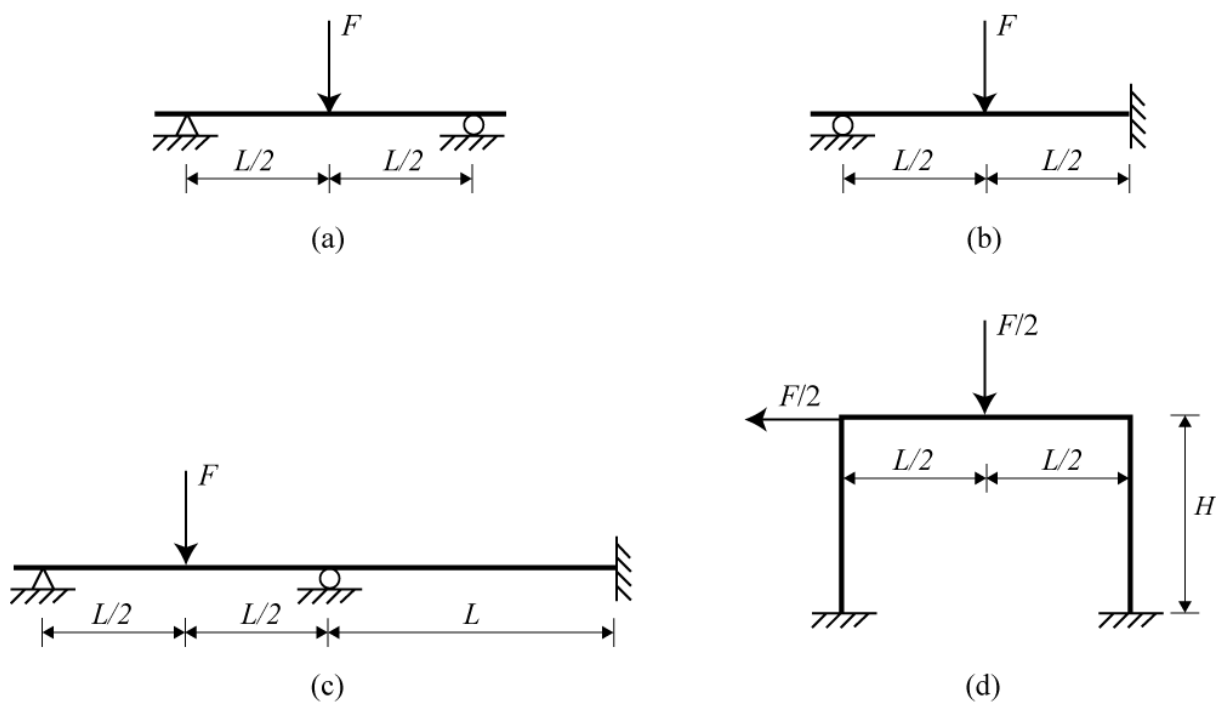

Figure 1
It is important for engineers to understand the way in which structures fail, and to be able to estimate failure loads. This experiment is concerned with the plastic collapse of beams and framed steel structures. The structural layouts shown in Fig. 1, below, are investigated.
Choose a statically indeterminate beam from Fig. 1, i.e. either the propped cantilever (b) or the continuous beam (c). Then, guess a possible collapse mechanism for your chosen structure (at least two plastic hinges are required) and find geometric relationships between the plastic hinge rotations  $\theta_i$  the deflection of the point of application of the load  $\delta$ , and the beam length  $L$ . Finally, choose a value for  $L$  and obtain an estimate for  $F_p$  from equation (2).